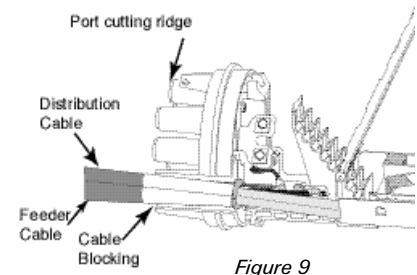

Figure 9
3. Insert the cable(s) through the oval port. Align each cable so that the sealed end of the cable block is flush with the inside edge of the opened port. For cables installed in the oval port, place the distribution (out) cable on top, and the feeder (in) cable on the bottom. (Figure 9)